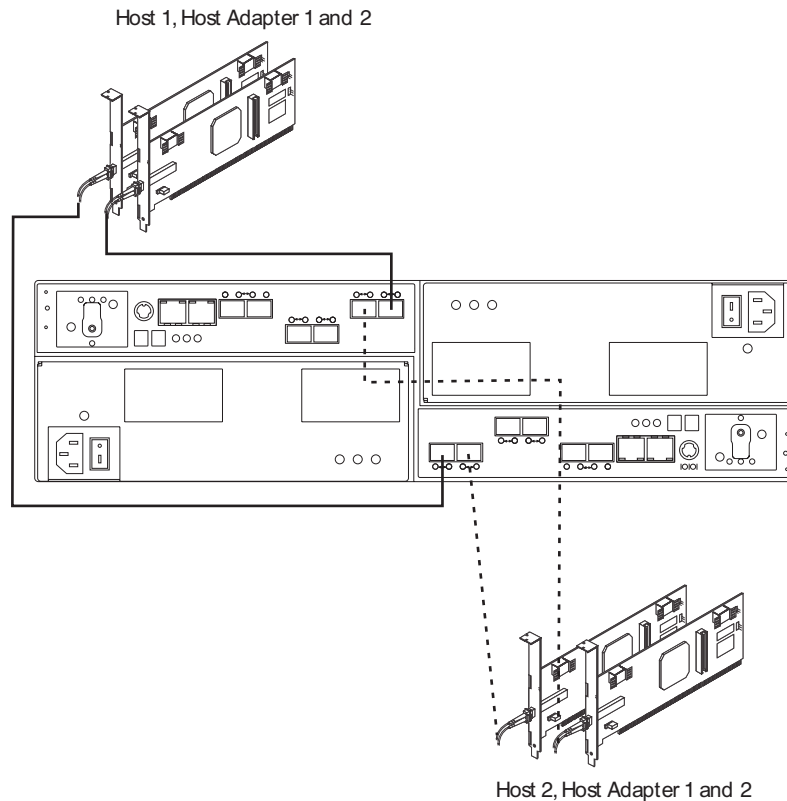

Figure 54. Cabling diagram for two redundant host connections
3. Repeat steps 1 on page 82 and 2 on page 82 for each additional redundant host connection. You can create two redundant host connections for the DS3950 storage subsystem, as shown in Figure 54 on page 84, or a maximum of four redundant host connections (not shown). With four redundant host connections, you can have a connection to a DS3950 Fibre Channel host bus adapter or to Fibre Channel switch ports.